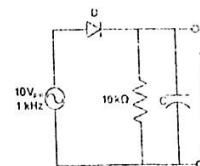

Figure 2.4 : Experimental Circuit 1.
1. Connect the circuit in breadboard as shown in figure 2.4 without capacitor.